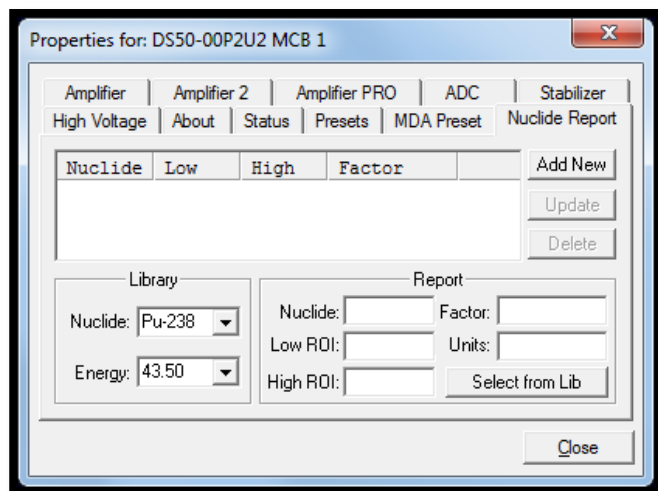

Figure 47. Nuclide Report Tab
Figure 47 shows the Nuclide Report tab. The Nuclide Report displays the activity of up to nine (9) user-selected peaks. Once the report is set up, the two lowest-energy ROIs and their respective activity readouts are displayed on the DSPEC 50's Spectrum screen.